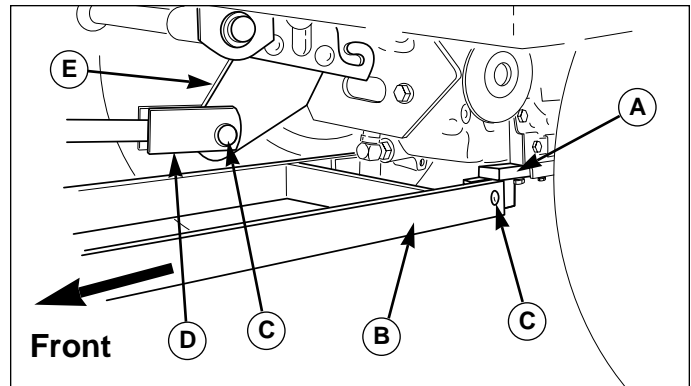

Figure 38. Rear Brackets & Lift Extension
2. Attach the rear end of the ladder hitch (B, Figure 38) to the rear hitch brackets (A) using two 5/8 x 1-5/8" flat head clevis pins (C) and safety clips.